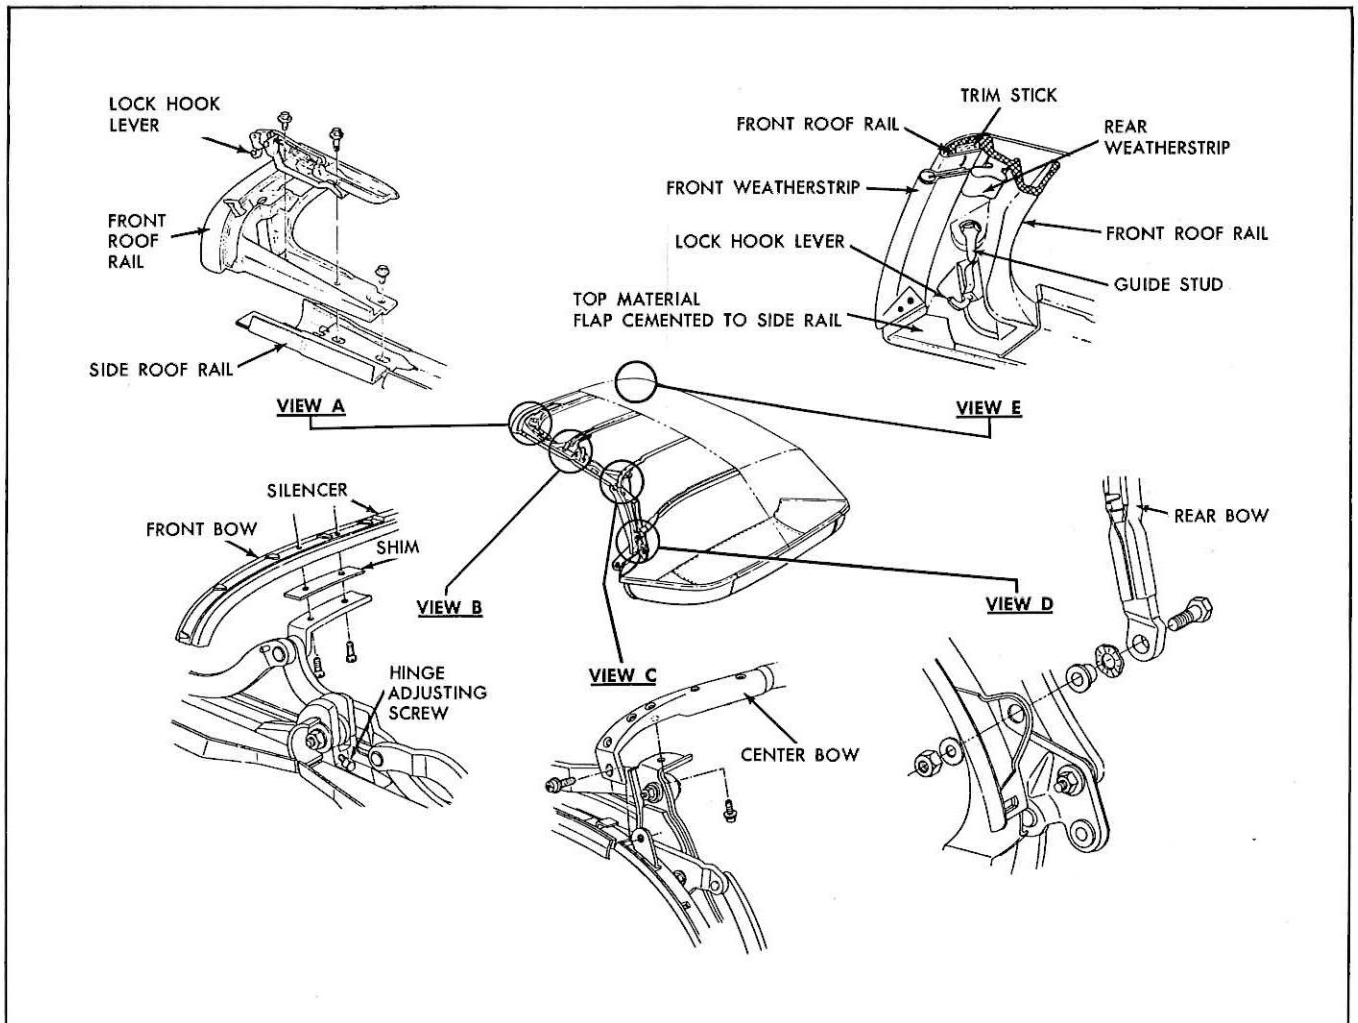

Fig. 4—Folding Top Linkage and Lock
2. Front roof bow felt silencer too high.	Trim silencer to within $\frac{1}{8}$ " of top of front roof bow. (See View "B" in Fig. 4).
2. Loosen guide sufficiently to permit adjustment (View E, Fig. 4). Shift guide to desired position and retighten.
2. Loosen side roof front rail attaching bolts and adjust front roof rail fore or aft as required (View A, Fig. 4). Repeat on opposite side if necessary.
2. With top in a half open position, remove lock attaching screws; then remove lock assembly from front roof rail (see View "A" in Fig. 4).